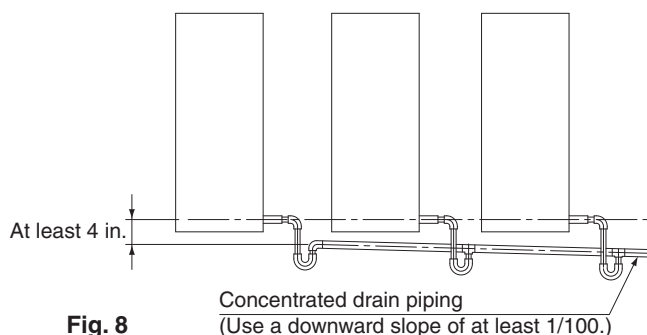

Fig. 8
- Observe the following guidelines when installing concentrated drain piping. Select the thickness of the concentrated drain piping to reflect the capacity of the machine to which it will be connected. (Install a drain trap for each indoor unit.) (Refer to Fig. 8)